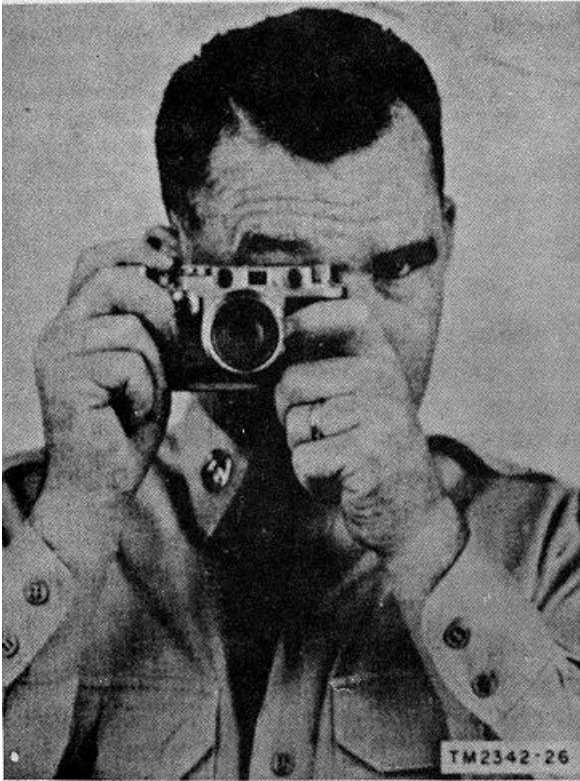

Figure 27. Camera, held in horizontal position.
a. Hold and operate the camera in either a horizontal (fig. 27) or a vertical (fig. 28) position as determined by the nature of the subject being photographed. In general, hold the camera steadily in a plane parallel to that of the subject. Avoid jerky motions.